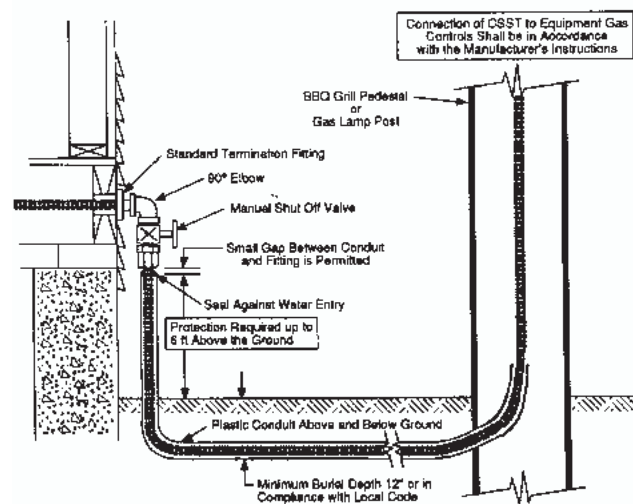

Figure 4-18
4. Yard mounted lights shall be connected to the *TracPipe* system as shown in figure 4-18. All piping installed below grade shall be protected by non-metallic, water-tight conduit or *TracPipe PS* or *TracPipe PS-II* for underground use. Exposed ends of the conduit shall be sealed against water entry.